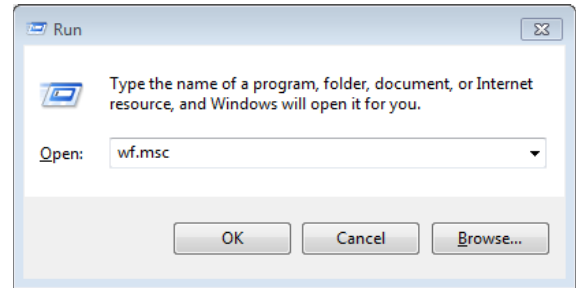

Figure 4. Run Window for Windows Firewall
9. To create an always allow rule in Windows Firewall, open the **Start > Run** window and type **wf.msc** into the box. Click **OK** (see Figure 4). Approve the **User Account Control** dialog box by clicking **Yes**.